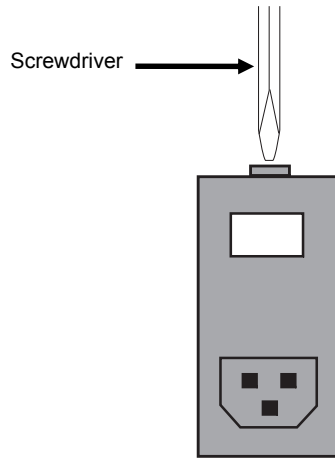

Figure 5-6. Fuse Replacement, Step 3
3. Insert the head of a narrow-bladed screwdriver into the notched top of the AC power connector assembly. See Figure 5-6.